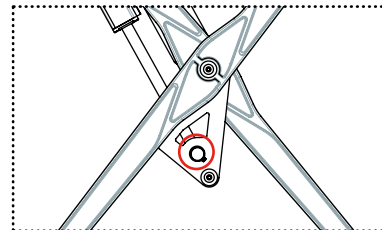

FIGURE 7
- Confirm that the Seeger washers on the lower motor holding shaft are not missing (see Fig. 7).